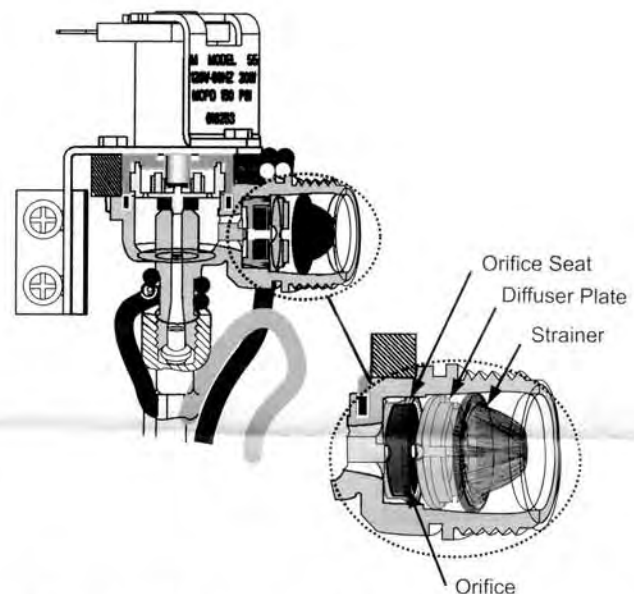

Figure 3. Arrangement of inlet side components.
3. Position the orifice seat, orifice, diffuser plate, and strainer as shown in Figure 3. When reassembling these components, always make sure: